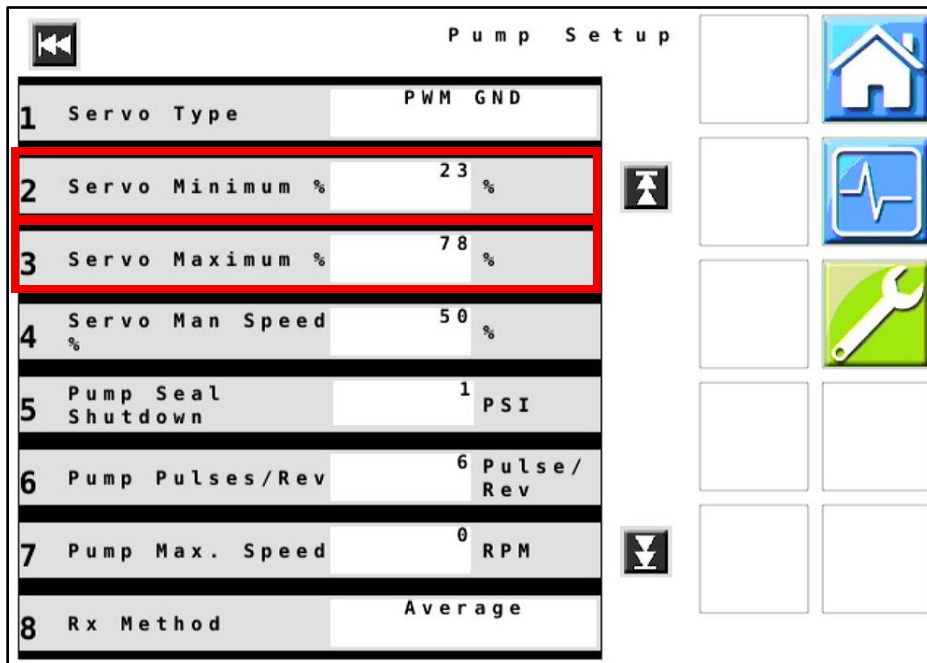

Figure 10 — Pump Setup – Page 1
22. **Figures 10 & 11:** Verify that all values displayed on your unit match those shown here. Change values if necessary.